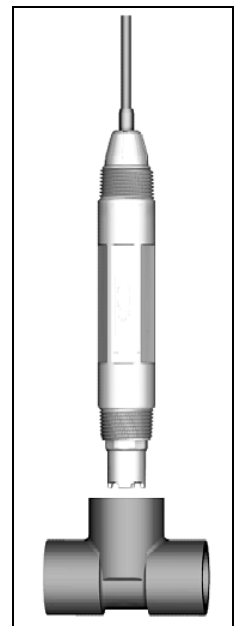

FIGURE 2-1
6. Refer to Figure 2-1 and carefully insert the sensor into the tee and hand tighten. Use a strap (not pipe) wrench on the sensor body to carefully snug the threads into the tee to prevent leaking. **DO NOT OVER TIGHTEN!**